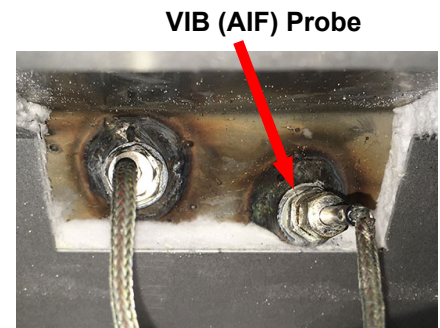

Figure 29
11. Unscrew the VIB (AIF) probe from the frypot (see Figure 29).